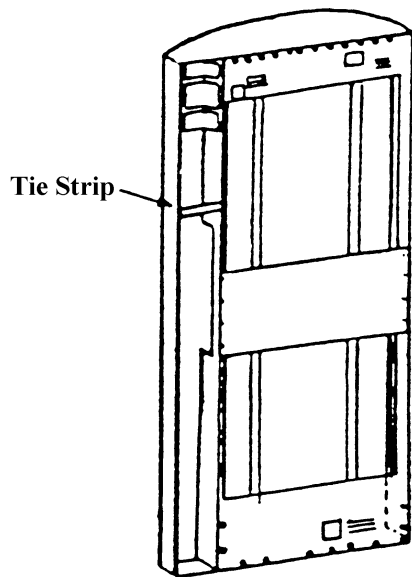

Figure 7
12. (A) On venders with a tie strip, the cam will lock to the tie strip when turned to the up position. (See figure 7 on page 4.)